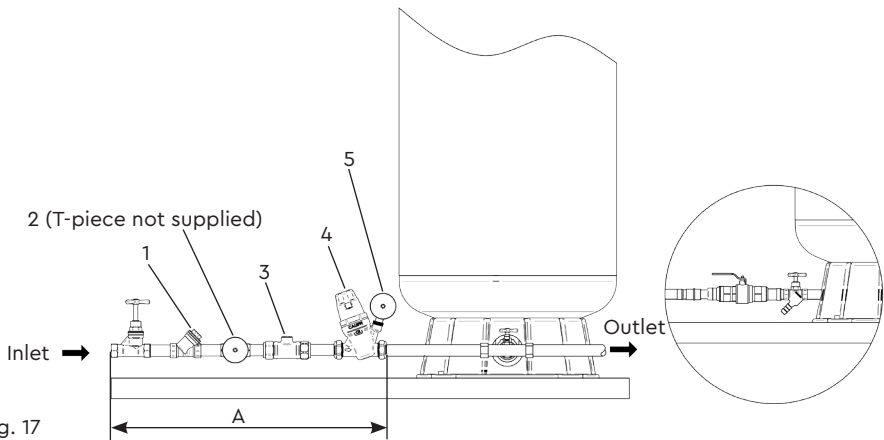

Fig. 17
- e) The vessel assembly should then be positioned and checked to ensure there is sufficient space to install the upstream line-in kit between the stopcock and pressure vessel inlet. Refer to the chart (Fig. 17) as a guide.